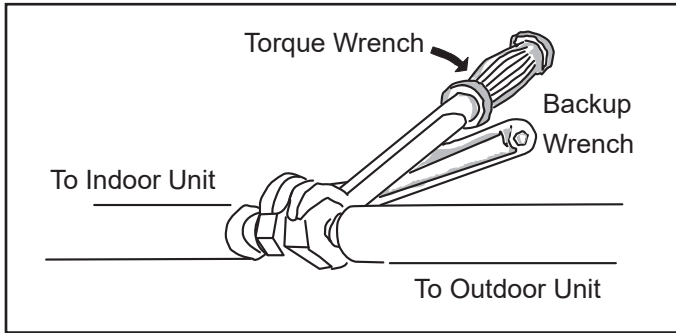

**Figure 4. Making Connections (Male to Female Connection)**
7. Access is required during the system startup process to test the condensate disposal system (See Figure 10), to check the electronic expansion valve and associated flare nuts (See Figure 4), and to check the local disconnect. Ceiling framing should not restrict access.